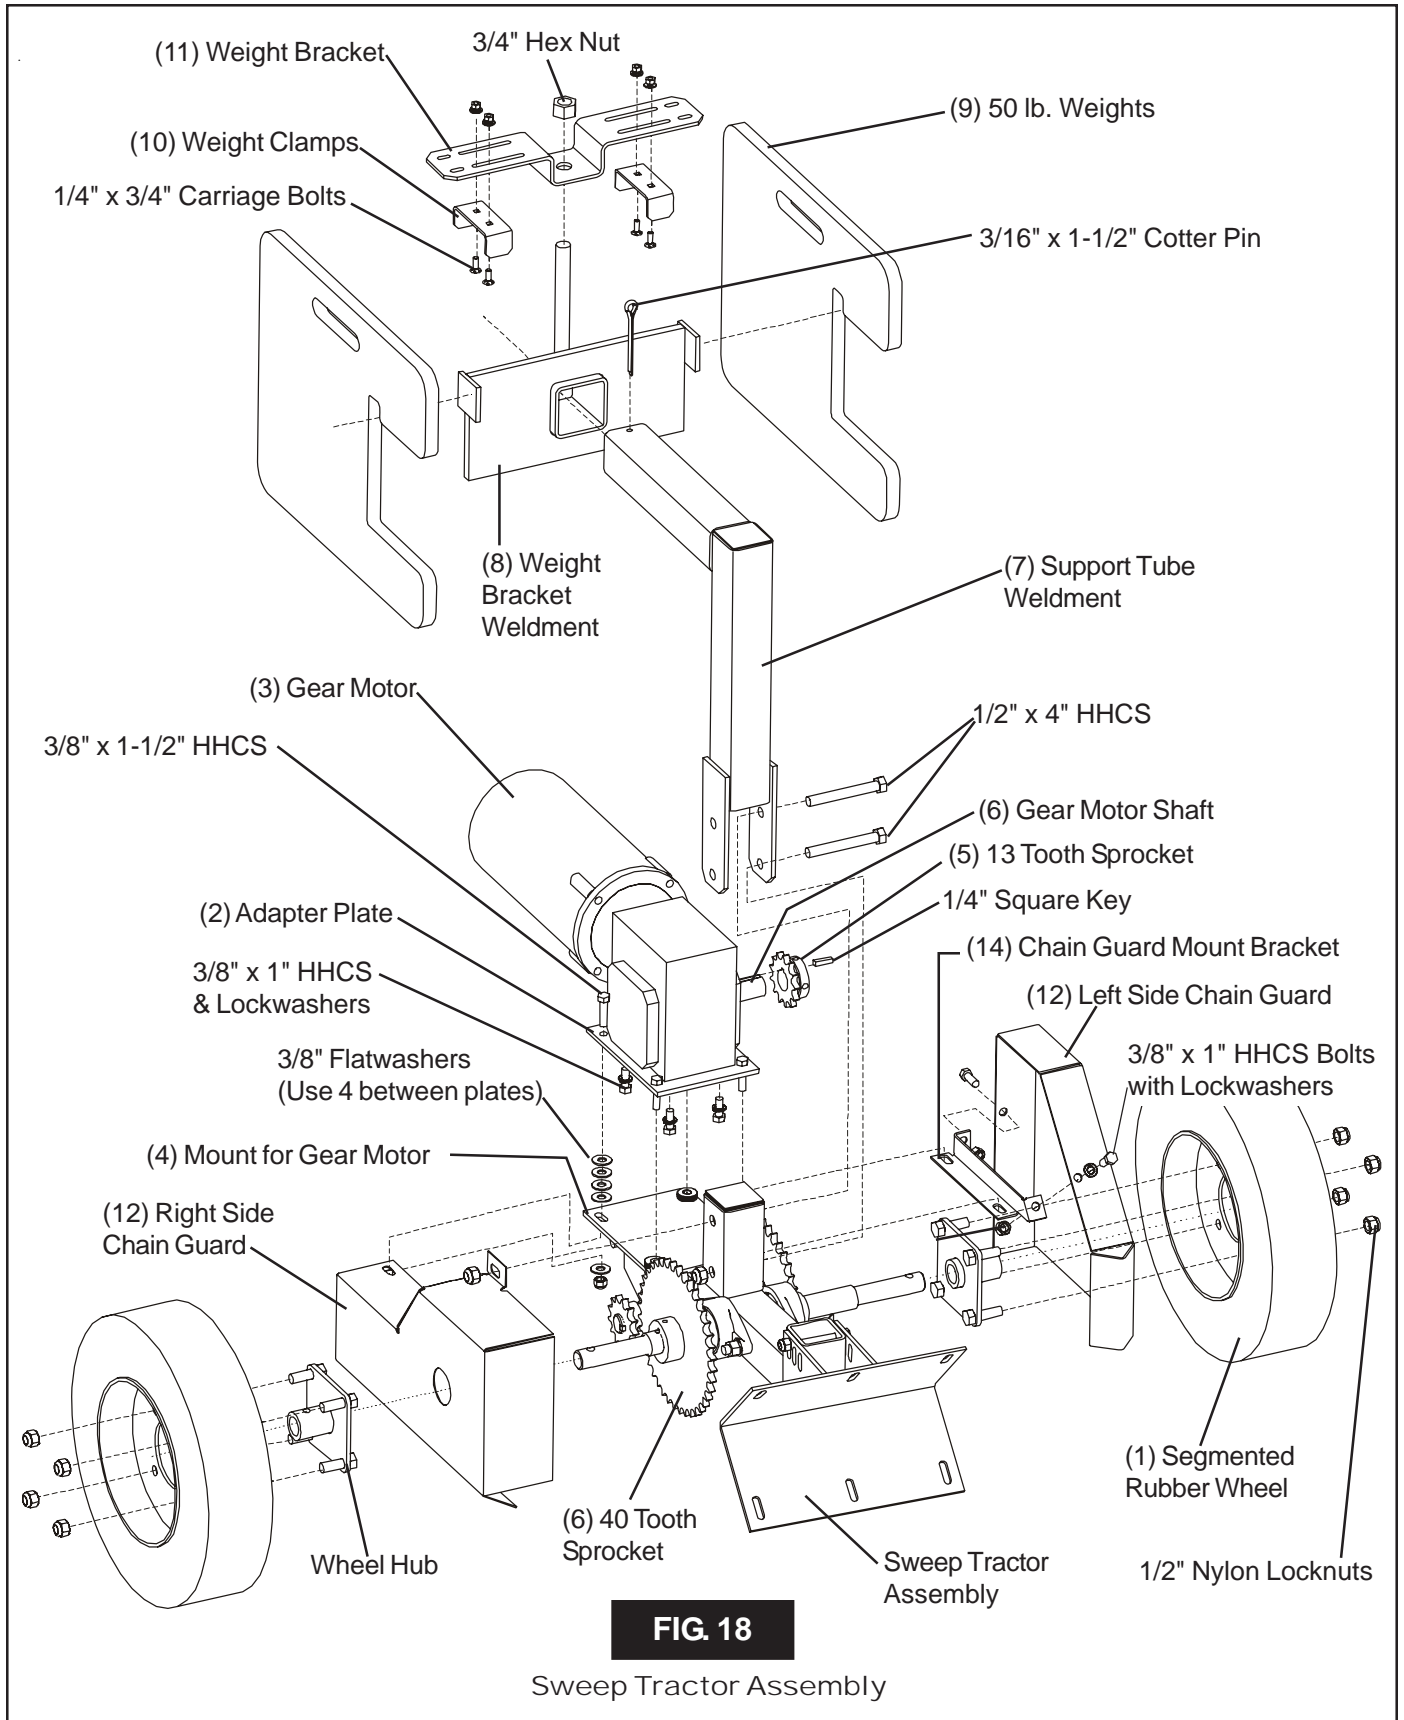

FIG. 18
1. Mount the sweep tractor (1) to the last shield section (2) furthest from the drive end. There are six 7/16" holes that have been pre-punched in the shield. Bolt sweep tractor (1) to shield (2) using six 3/8" x 1" hex head capscrews with flat washers and nylon locknuts.
8. SWEEP TRACTOR ASSEMBLY (SEE FIG. 18)